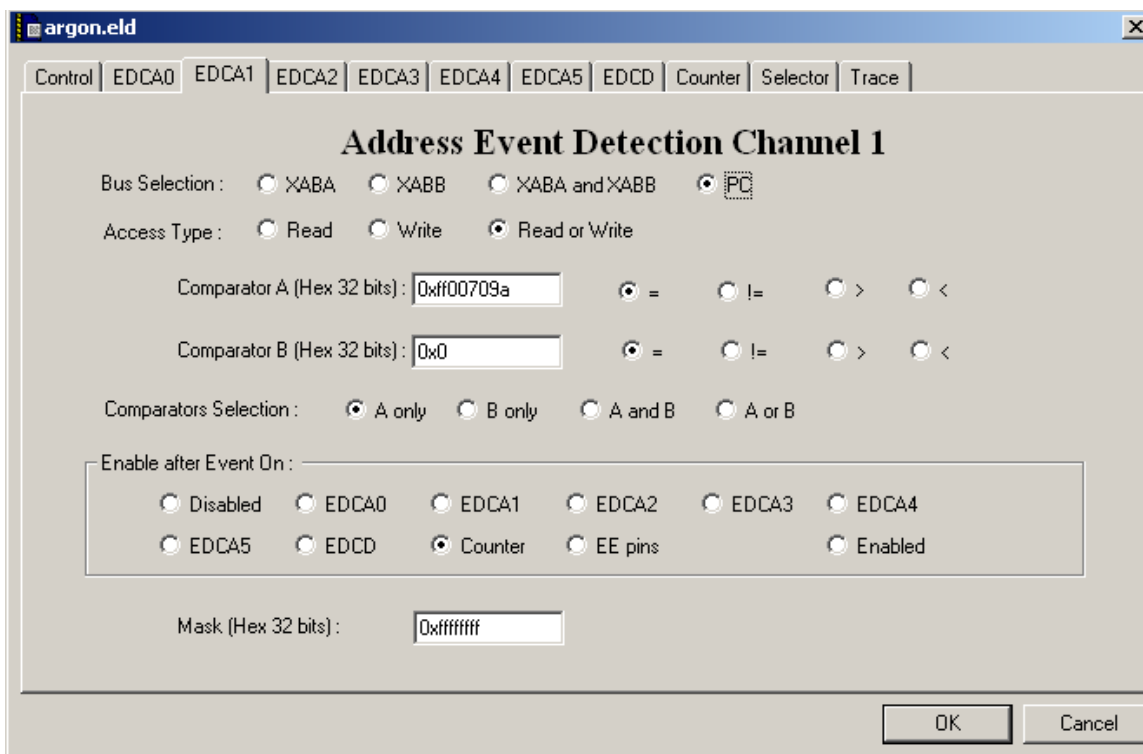

Figure 23: EDCA1 Setup
- ii. In the EOnCE configuration window select the EDCA0 tab (see Figure 23: EDCA1 Setup)